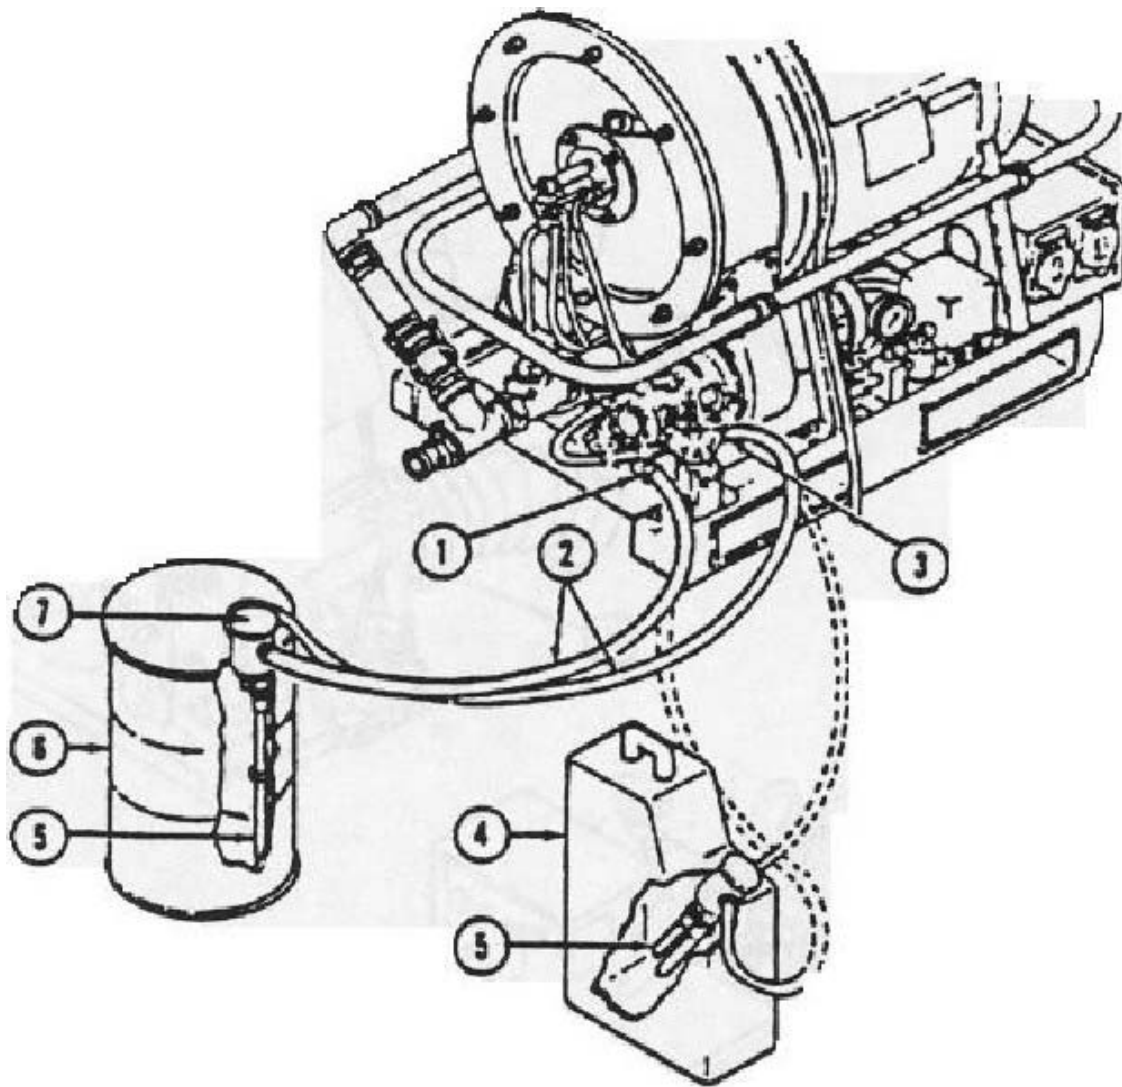

Figure 3-24
- a. Obtain two fuel lines (2).
- b. Connect one fuel line (2) to fuel filter inlet (3) and one fuel line to fuel pump outlet (1). (See Figure 3-24)